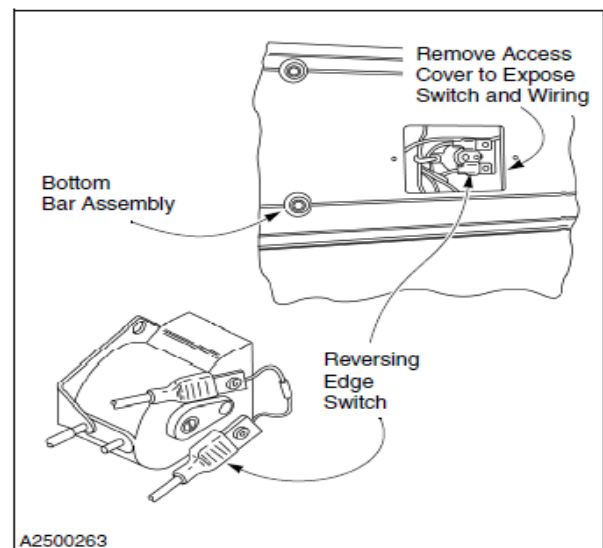

Figure 46
1. The reversing edge switch is located under the Ry-Wi cover inside the bottom bar assembly. To inspect or adjust the switch, remove the access cover from the face of the bottom bar assembly. (See Figure 46)